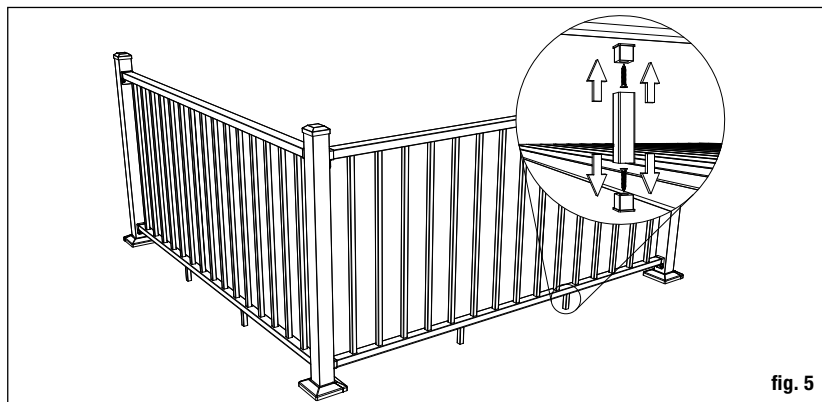

fig. 5
Step 4 A rail support is needed every 2 feet (**2 are included in the 6ft kit, 3 in the 8ft kit**). Attach rail support connectors to the bottom of the lower rail at 2-foot intervals. Predrill using a 1/8" drill bit. Attach the rail supports to the support block connectors. Mark the location of the rail support on the deck surface and attach the other rail support connector to the deck using the included screw (fig. 5). **For Anodized Brushed Titanium Railing drill two 1/4" drain holes through the bottom of the rail to prevent trapping water. Center drain holes between two baluster locations as baluster can block the pathway and stop water from properly draining.**
Step 3 Place the bottom brackets on ends of the rails. Attach the brackets to the rails with a screw attached through back of bracket into each internal screw boss (fig. 5).